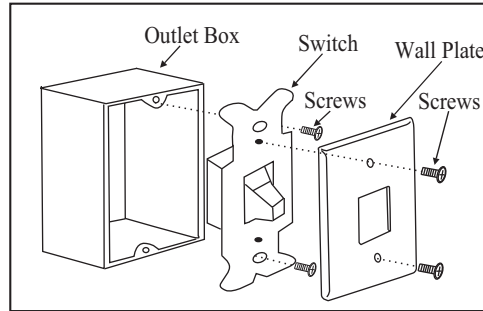

Figure 11
1. Disconnect the power and remove the existing wall plate and switch from the wall junction box. (Figure 11).